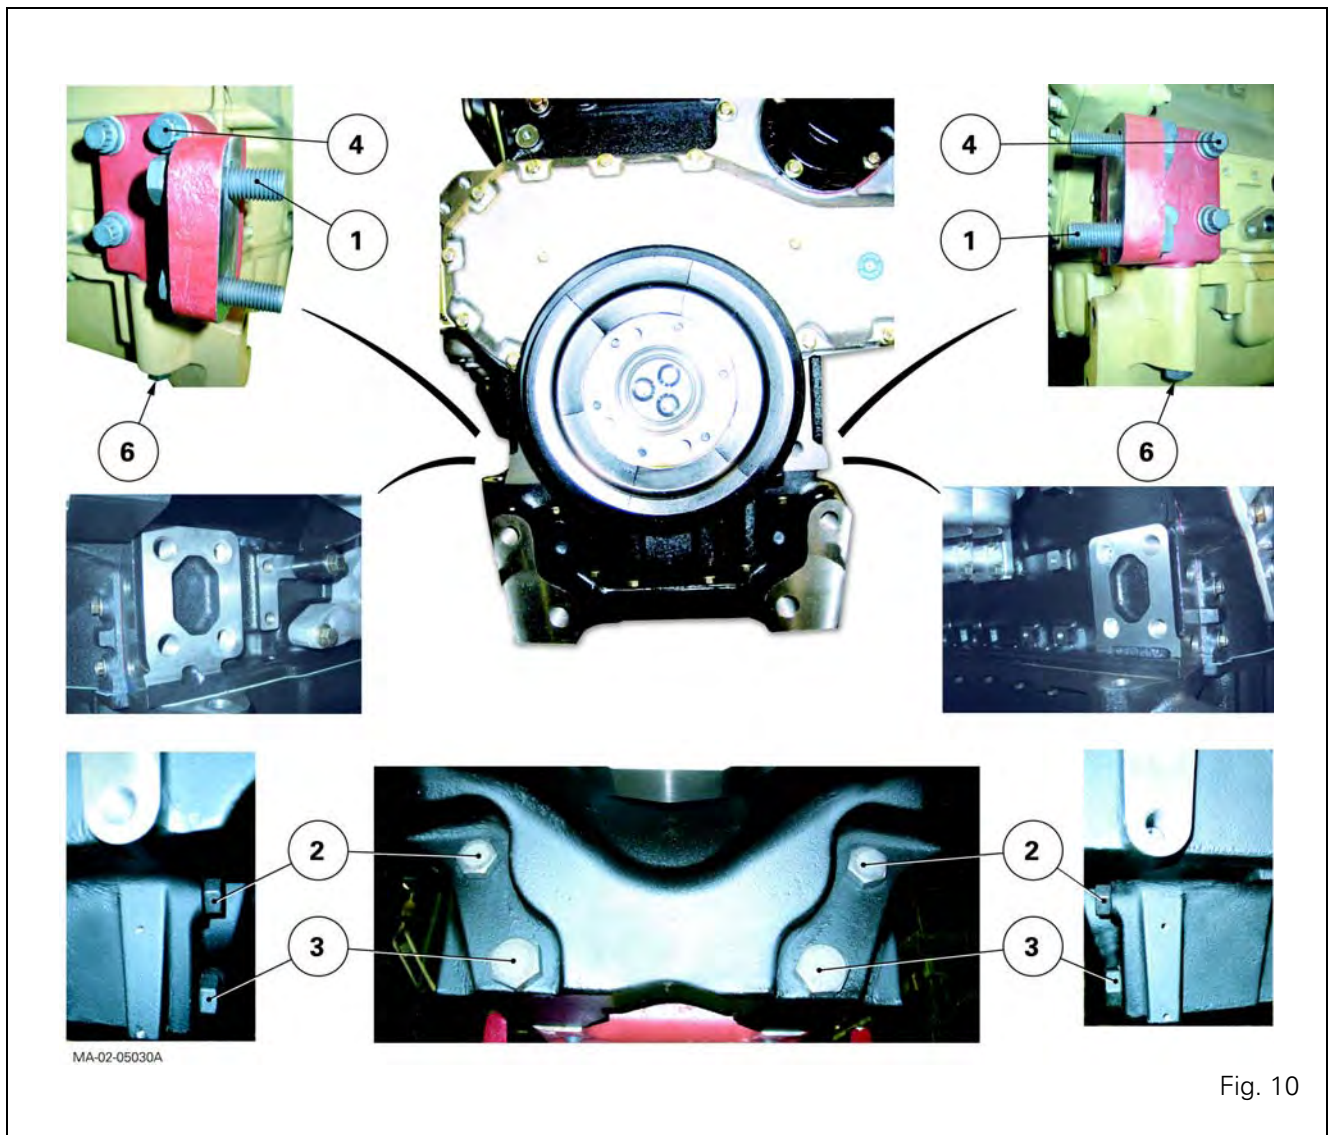

Fig. 10
22. Remove lateral screws (1) (Fig. 10).
23. With the help of an operator, loosen the screws (2)(3) (Fig.10), simultaneously moving the frame away from the engine.